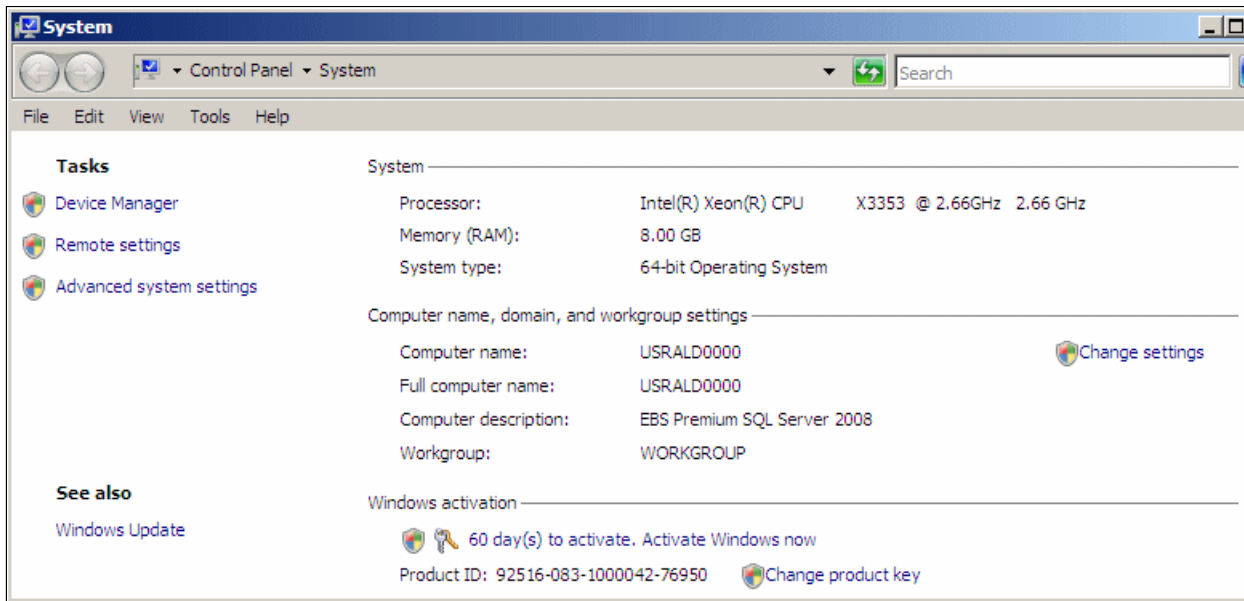
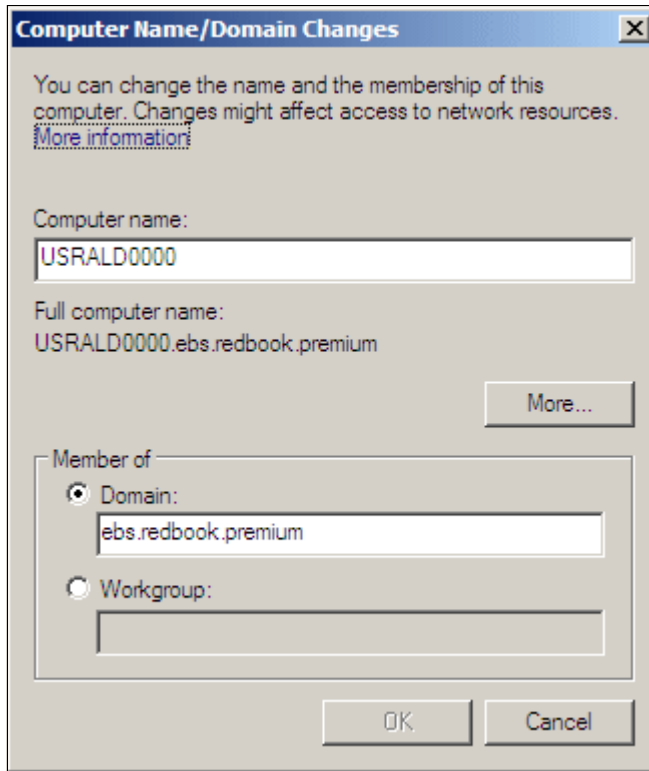

Figure 6-7 System settings
Figure 6-9 Server and Domain name change panel
1. It is suggested to change the server's computer name to the correct naming convention used in your environment. On the desktop, right-click the Computer icon and click **Properties** to display the "System" window (Figure 6-7). Click **Change settings**. The "System Properties" panel displays.
The “Computer Name/Domain Changes” panel (Figure 6-9) displays. Type the appropriate server name for your server in the name field. We named the server USRALD0000.
3. Once the system has restarted and you are logged in, return to the “System” window shown in Figure 6-7 on page 143. Click **Change settings**, then click **Change**. This time the domain name needs to be updated. Click the **Domain** radio button and type the domain name. We named the server ebs.redbook.premium. Figure 6-9 displays the new domain name. Click **OK**.